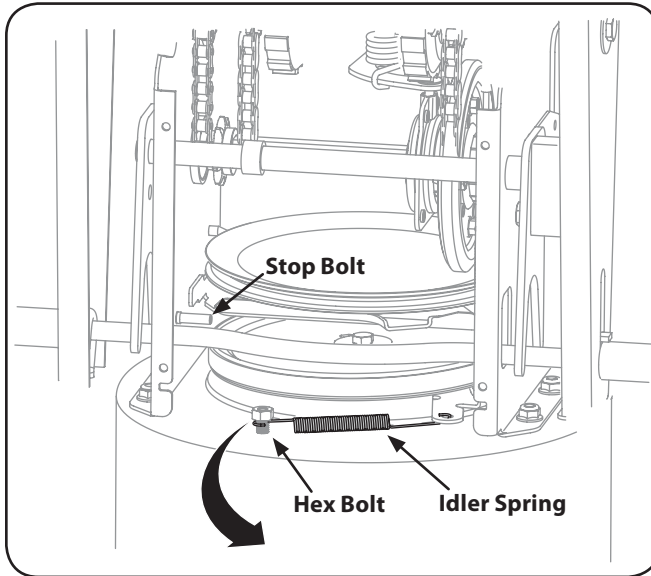

Figure 7-4
6. Unhook the idler spring from the hex bolt on the auger housing. See Fig. 7-4.
6. Back out the stop bolt until the support bracket rests on the auger pulley. See Fig. 7-4.